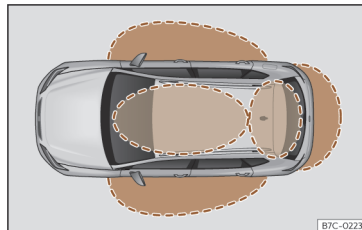
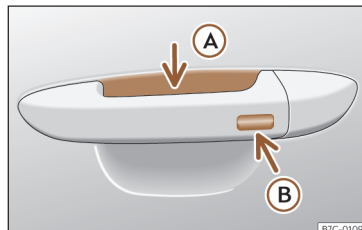

Fig. 71 Keyless Access: proximity zones.
Fig. 72 Door handle: sensor surfaces
in the detection area where you are attempting to access the vehicle»» **Fig. 71** and to touch one of the sensor surfaces on the door handles»» **Fig. 72** or operate the *soft-touch*/handle on the rear lid
If a valid key is in the proximity of the car, »» **Fig. 71** the Keyless Access locking and starting system gives the key entry as soon as one of the sensor surfaces on the door handles is touched or the *softtouch*/handle on the rear lid is operated.
- Grip one of the front door handles. When you do this, you touch the sensor surface »» **Fig. 72** ❶ (arrow) of the handle and the vehicle unlocks.
- Touch (*once*) the locking sensor surface »» **Fig. 72** ❷ (arrow) on one of the front door handles. The door that is used must be closed.
• Touch (once) the sensor surface»» **Fig. 72** **B** (arrow) on one of the front door handles. The vehicle locks with the “Safe” security system»» page 96. The door that is used must be closed.
• Touch (twice) the sensor surface»» **Fig. 72** **B** (arrow) of one of the front door handles to lock the vehicle without activating the “Safelock” security system»» page 96.
When the vehicle is locked, the rear lid automatically unlocks on opening if there is a valid vehicle key in the proximity zone »» **Fig. 71**.
- Push the central locking button  on the remote control and touch the locking sensor surface of the driver door handle »» **Fig. 72** **B** within the following 5 seconds. Do not grasp the door handle; otherwise the vehicle will not unlock. Deactivation is also
To close all the electric windows and the sunroof using the **comfort function**, keep a finger for a few seconds on the locking sensor surface»» **Fig. 72** **B** (arrow) of the door handle until the windows and roof have closed.
The sensor surfaces on the door handles could engage if hit with a water jet or high pressure steam if there is a valid vehicle key in the proximity. If at least one of the electric windows is open and the sensor surface »» **Fig. 72** **B** (arrow) on one of the handles is
- **OR:** touch the sensor surface on the outside of the door handle *twice* >>> **Fig. 72** .